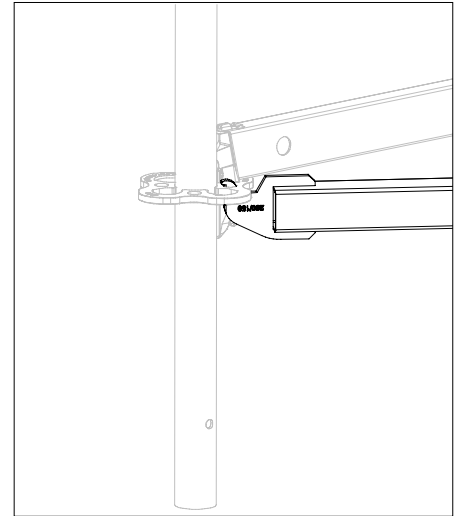

Fig. A8.02
2. Turn the end of the horizontal brace (6) upwards until the hook can be inserted into the rosette of the second frame. (Fig. A8.02 + A8.03)